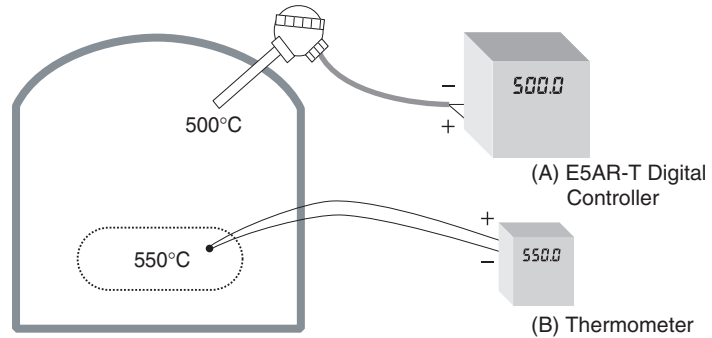

Figure 1. Configuration for Input Correction
2. Obtain a temperature sensor that can measure the temperature of the object as shown in Figure 1.